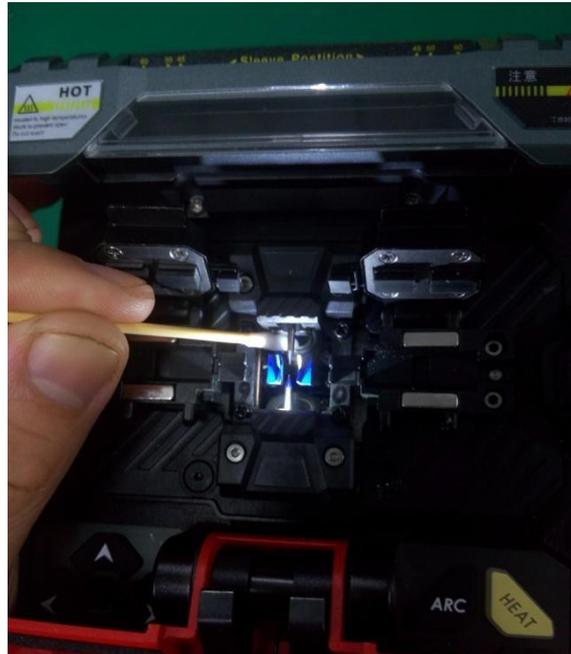

Fig. 26 Cleaning of objective lens
- b) As shown in Fig.26, clean the objective lens with a fine cotton swab moistened with alcohol. Wipe the lens with a cotton swab from the middle of lens and along the circular trajectory until the edge of lens is wiped. Then wipe off the remaining alcohol with a clean, dry cotton swab.